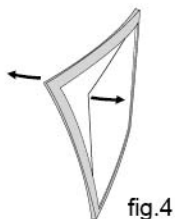

fig.4
- **REPLACING FRONT COVER LENS.** Replacing the front cover lens if it is damaged (cracked, scratched, soiled or pitted) (See fig.4).